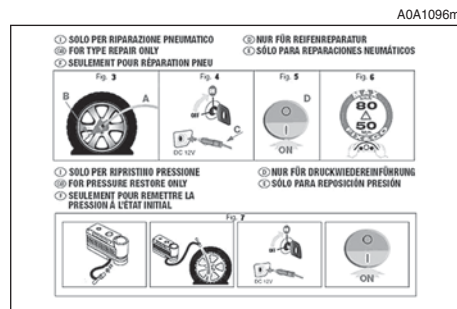

fig. 11
- a leaflet with the instructions **fig. 11** for a correct use of the quick repairing kit; this leaflet shall be delivered to the personnel who will handle the tyre treated with the quick repairing kit;